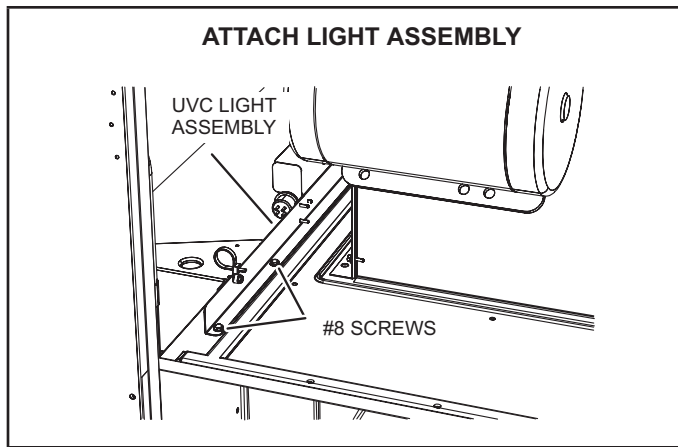

FIGURE 46
- 8 - Carefully place the UVC assembly on the blower deck. Line up the mounting holes on the UVC assembly with the mounting holes on the blower deck. See FIGURE 46. Use the #10 screws provided to attach the UVC assembly in place.